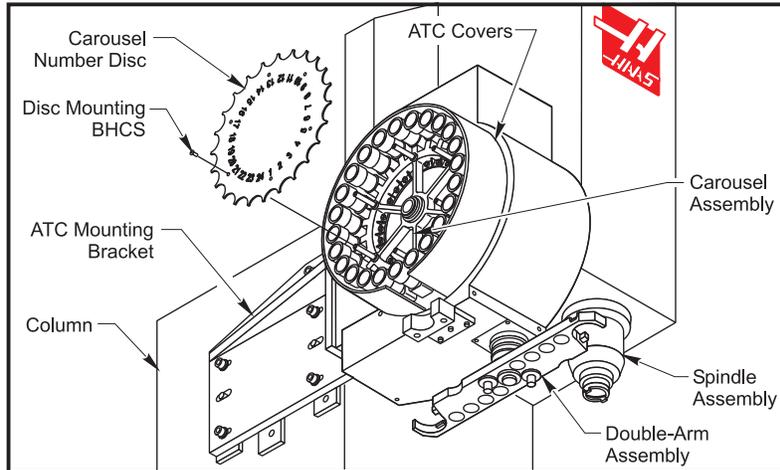

Figure 3.12-1 ATC Assembly, Carousel Removal
2. Unscrew the BHCS from the carousel number disc and remove. Refer to Figure 3.12-1.